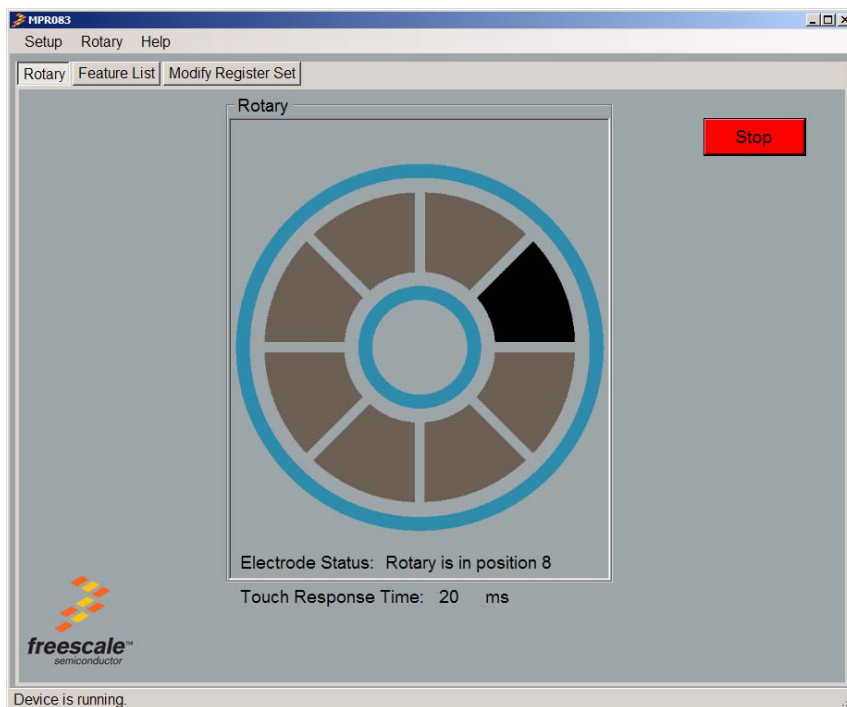

Figure 16. Pad being pressed in Main Rotary Window
- Touch one of the rotary pads on the board. Verify that the rotary pad being touched on the GUI is black and the LED is on, on the Freescale logo (Figure 16). The user can repeat this step touching all 8 pads on the rotary. As the pads are being touched, the corresponding pad on the GUI will change to black and the LED on the board will light up.